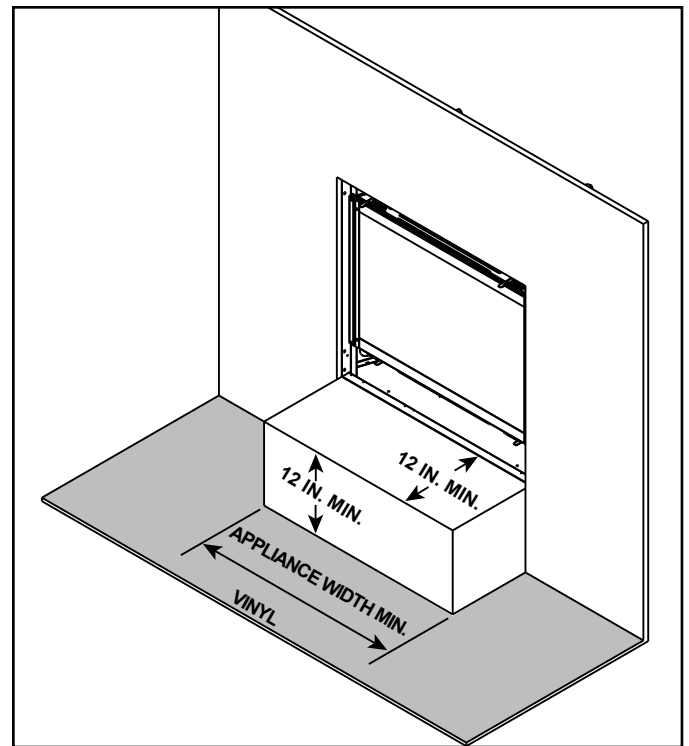
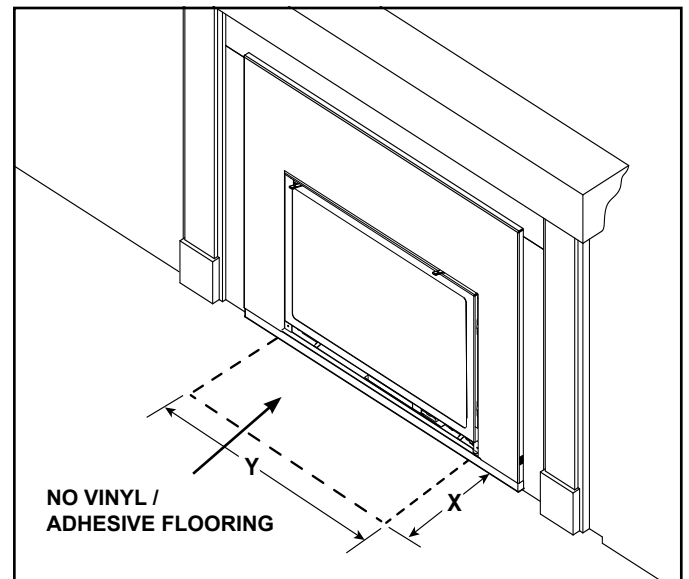

Figure 3.20 Vinyl Flooring Recommendations
Figure 3.21 Hearth - Combustible Material Exception
- Combustible flooring may be located in front of the appliance. See Figure 3.20 for vinyl flooring recommendations.
Vinyl flooring is sensitive to heat. To avoid damage to the vinyl flooring, a 12 inch minimum x 12 inch minimum hearth is recommended when using vinyl flooring up to the wall. See Figure 3.20. If no hearth is used, it is recommended to provide a minimum of 24 inches of clearance in front of the appliance to the vinyl flooring OR the bottom of the appliance should be raised a minimum of 24 inches off of the floor to allow the vinyl flooring to be installed up to the wall. See Figure 3.21.